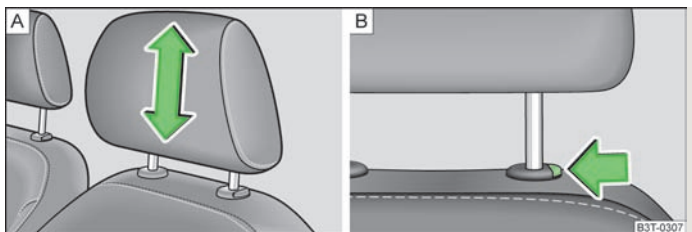

Fig. 59 Head restraint: adjusting/removing
- Grasp the side of the head restraint with both hands and push it upwards as required » Fig. 59 - A.
- To move the head restraint downwards, press and hold the safety button » Fig. 59 - B with one hand and press the head restraint downwards with the other hand.
- Press the locking button in direction of the arrow » Fig. 59 - B and pull the head restraint out.